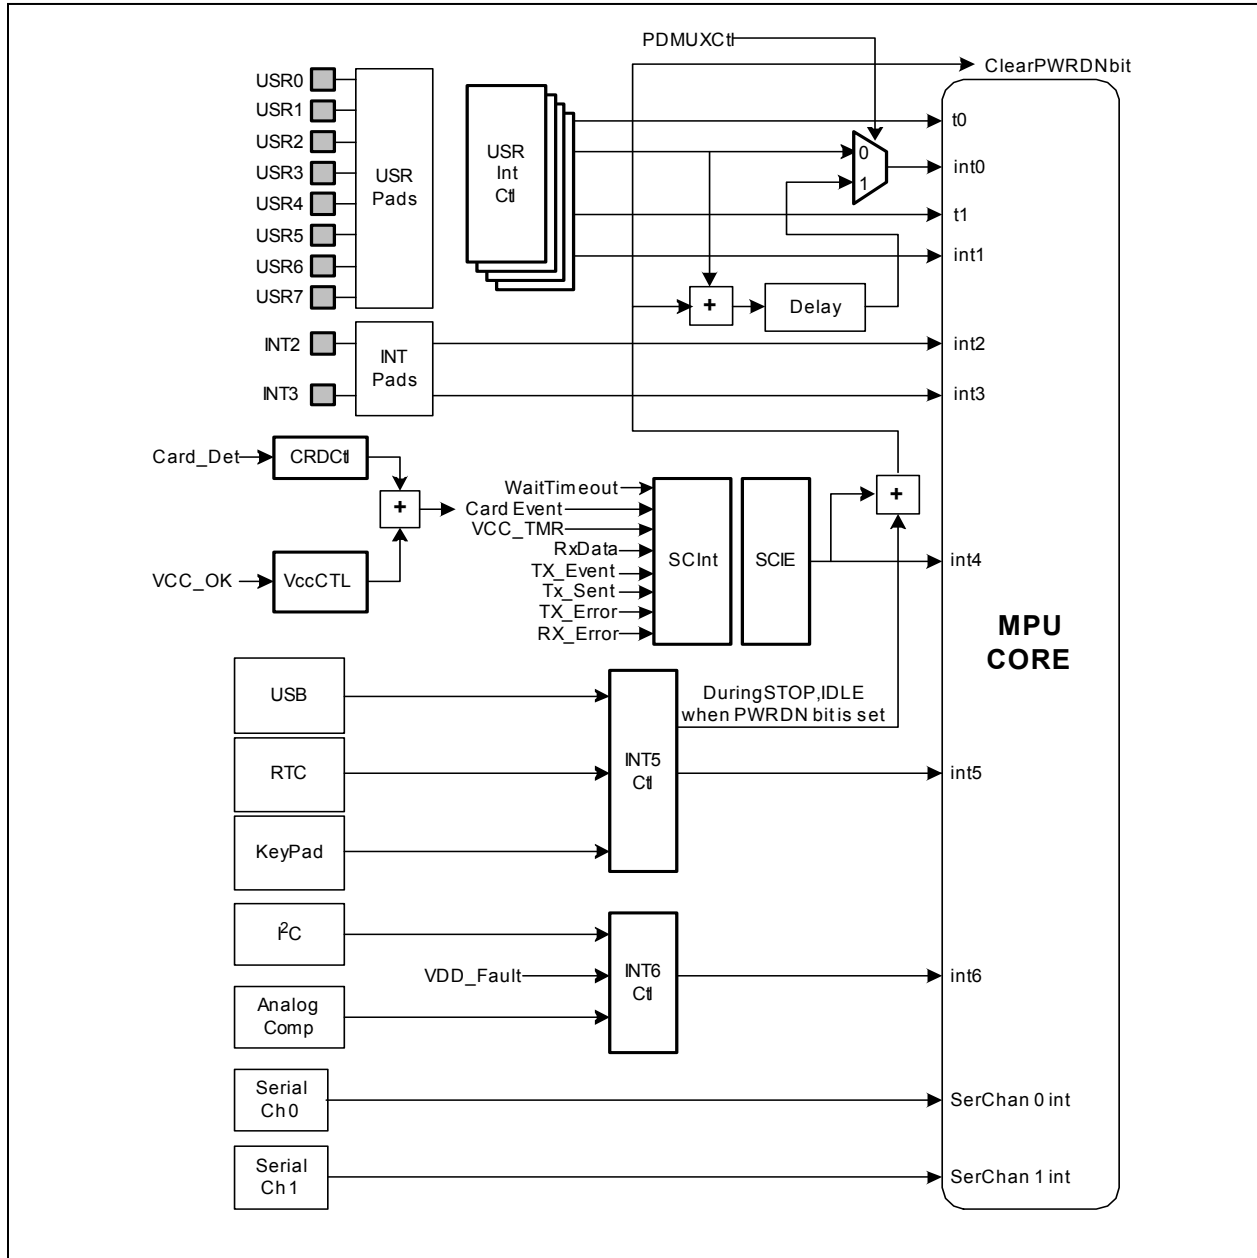

Figure 9: External Interrupt Configuration
**External interrupts are the interrupts external to the 80515 core, i.e. signals that originate in other parts of the 73S1217F, for example the USB interface, USR I/O, RTC, smart card interface, analog comparators, etc. The external interrupt configuration is shown in Figure 9.**